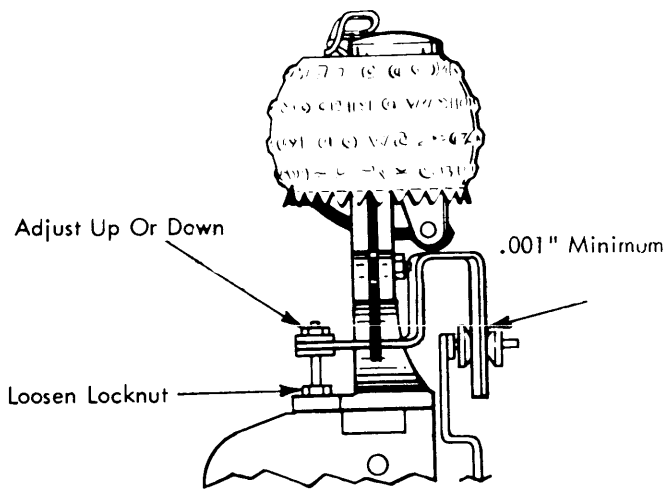

FIGURE 44. Detent Lever Support
- b. With the detent cam follower on the low dwell of the cam (detents fully seated), loosen the locknut on the detent actuating lever support and adjust the Bristo screw up or down until there is a clearance of .001" felt between the detent actuating lever and the detent cam follower roller (Fig. 44).